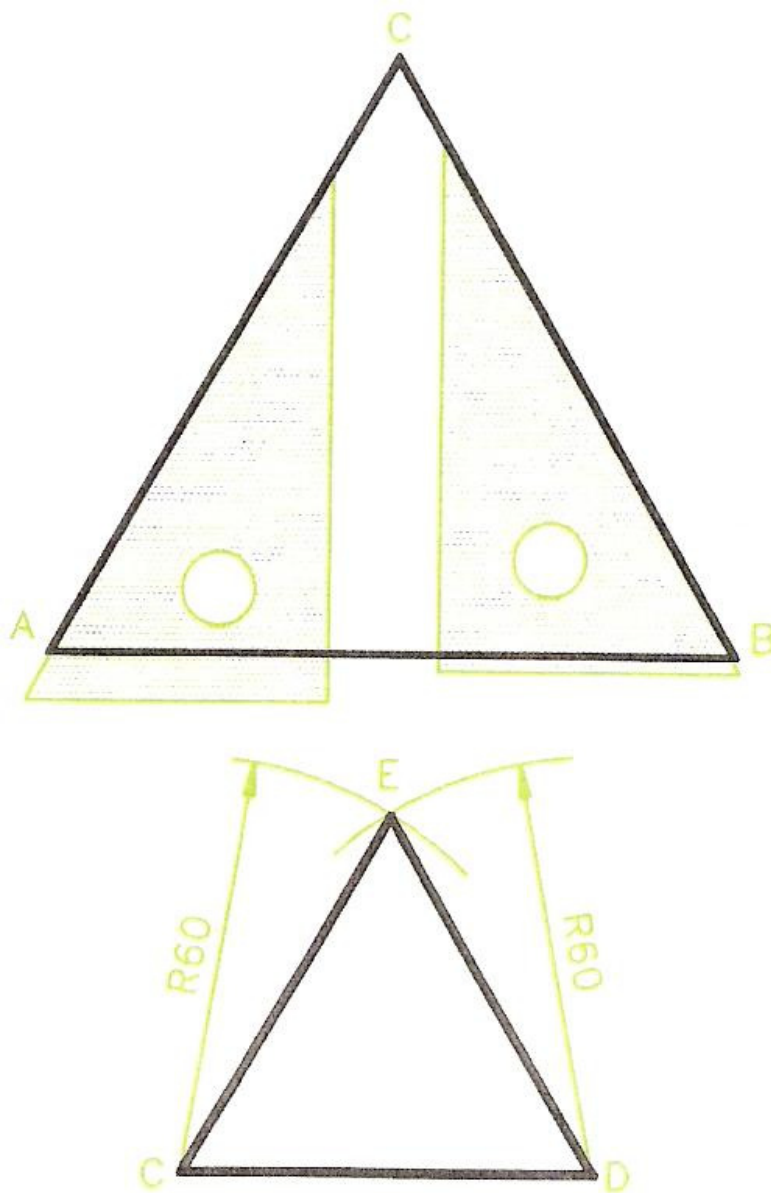

Figure 15 - Constructing Equilateral Triangles
Figure 15 shows two methods of constructing an equilateral triangle:
2. Strike off compass arcs with the compass set to the length of the side. Thus in the lower of the two drawings of Figure 15, the side length of the equilateral triangle is 60 mm. Start by drawing the base - a line 60 mm long; then set a compass to 60 mm and strike arcs from each end of the base; draw lines from the ends of the base to the intersection of the two arcs.